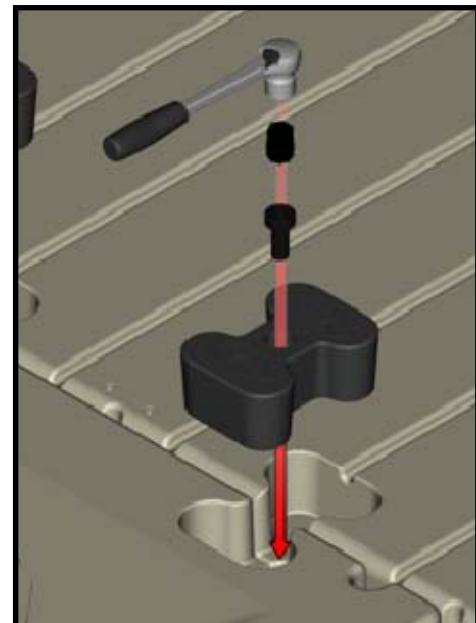

Figure 7.
9. While holding pressure, insert the top coupler into the opposing pocket by aligning the hole in the top coupler over the rod and pushing the coupler into the pocket, (Figure 7).
10. Install the coupler nut (Item 4) onto the bolt and tighten until the top of the bolt is 3/8 -1/2" below the top of the nut (do not torque over 15 ft-lb). Due to the security feature on the coupler nut, the composite coupler installation tool (Item 3) is required for tightening. The coupler installation tool is splined on the end to be inserted into the coupler nut and the other end is a 15/16" bolt. This is inserted into a 15/16" socket (Item 2) with ratchet (Item 1) for tightening (Figure 7).